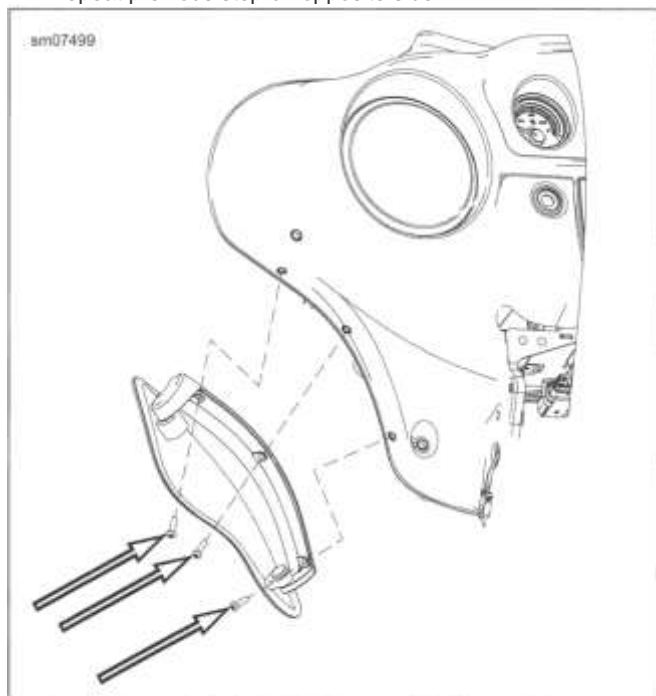

Figure 3-134. Air Deflector (Adjustable)
1. See Figure 3-134. Remove three screws to release air deflector at side of inner fairing.
1. See Figure 3-134. Install three screws to fasten air deflector at side of inner fairing. Alternately tighten screws.